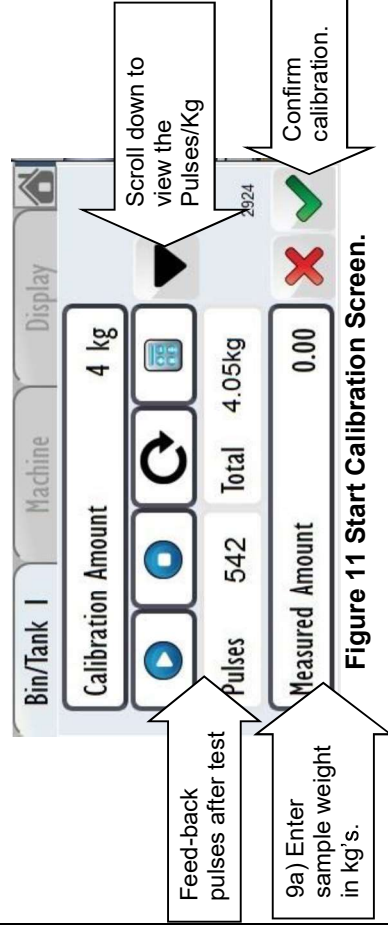

Fig. 10
c) With the seeder prepared, tractors hydraulics engaged, fan turned off at the seeder, calibration tray fitted to the meterbox and meterwheel's primed, you can either start the metering system at the monitor by pressing the start button or go to the seeder and press the remote calibration button (Fig.10).
9. Entering the sample weight (Refer Fig.10):-